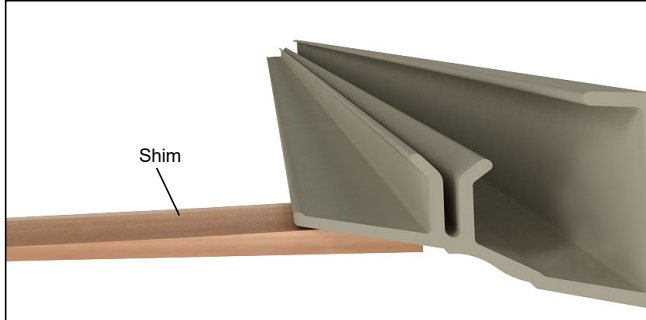

Figure 70
1. For cutting Ultrex lineal casing parts, use a continuous rim diamond blade. Ensure to keep parts square and fixed. Shim under the BMC with a 7/16" (22) thick block to keep casing square. See *figure 70*.